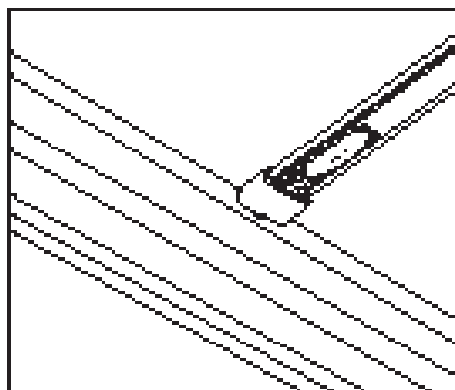

Fig.10
3. Slide the pointed tip of the arm into the hole in the roller tube (**Fig.10**).